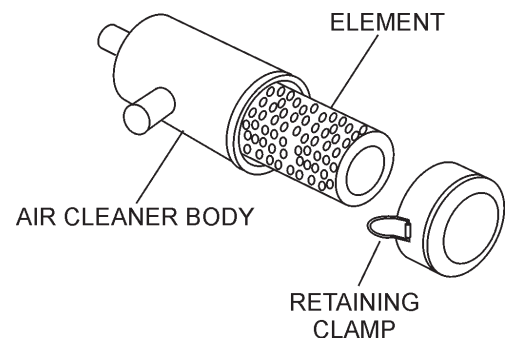

Figure 31. Air Cleaner
1. Release the air cleaner retaining clamps (Figure 31) and remove the air cleaner element.
4. Tap the paper filter element (Figure 31) several times on a hard surface to remove dirt, or blow compressed air [not exceeding 99 psi (686 kPa, 2.1 kgf/cm²)] through the filter element from the inside while turning the element. **NEVER** brush off dirt. Brushing will force dirt into the fibers.